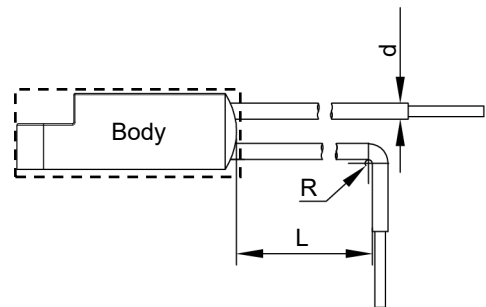

FIGURE T-2
2. When bending leads, please use pincher or similar tools to fix the product as shown in Figure T-2 to avoid damaging the product.
5. Bending radius R : $\geq 15 d$, as shown in Figure T-2.